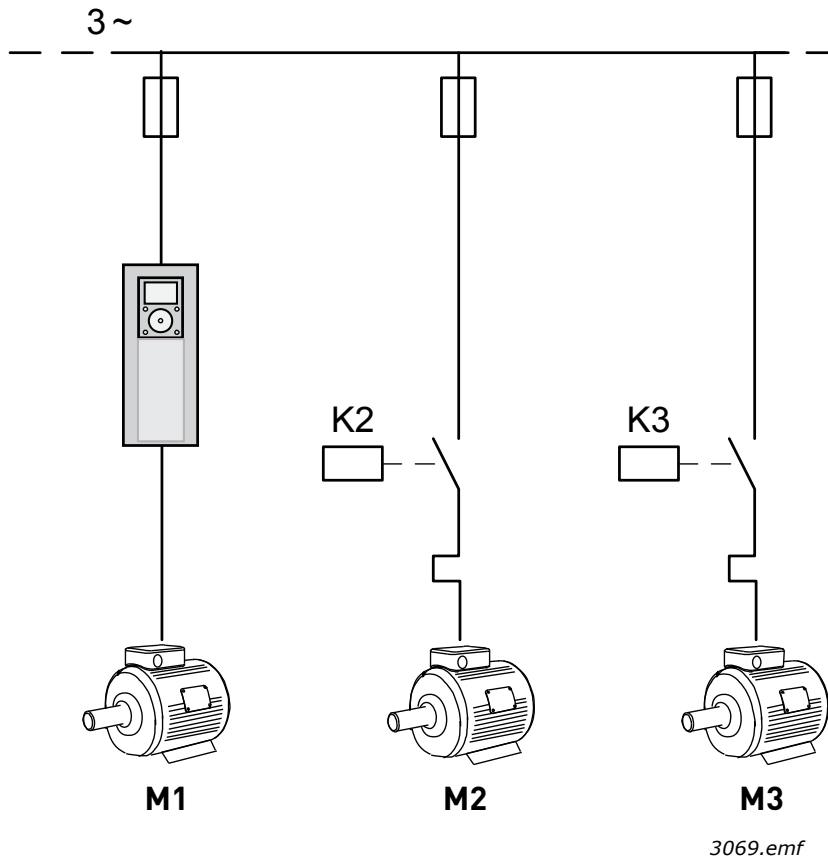

Figure 5. Principal control diagram, when only auxiliary motors are autochanged.
**NOTE!** Different connections, depending on selected autochange mode (See Figure 5 and Figure 6)